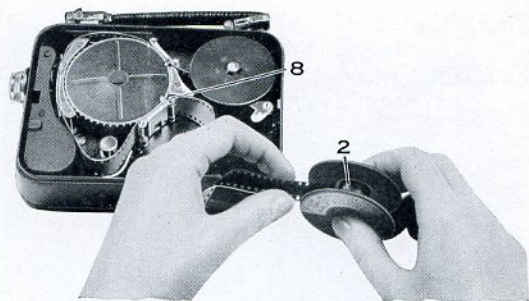

Fig. 7:
Be sure that the teeth on the sprocket engage the perforations in the leader, then close the lower sprocket clamp 8 by pushing it towards the sprocket, slipping the knurled button over the post. See Fig. 7, page 10.
Give the winding key 16, Fig. 10, page 13, a few turns, and press down the exposure button 17, until about six inches of film is run through the camera. Thread the end of the leader into the slot in the core of the empty take-up spool 2, as shown in Fig. 7. The flange of the take-up spool 2 which is marked with an *arrow*, must be *towards* you when threading the end of the leader into the core of the spool.